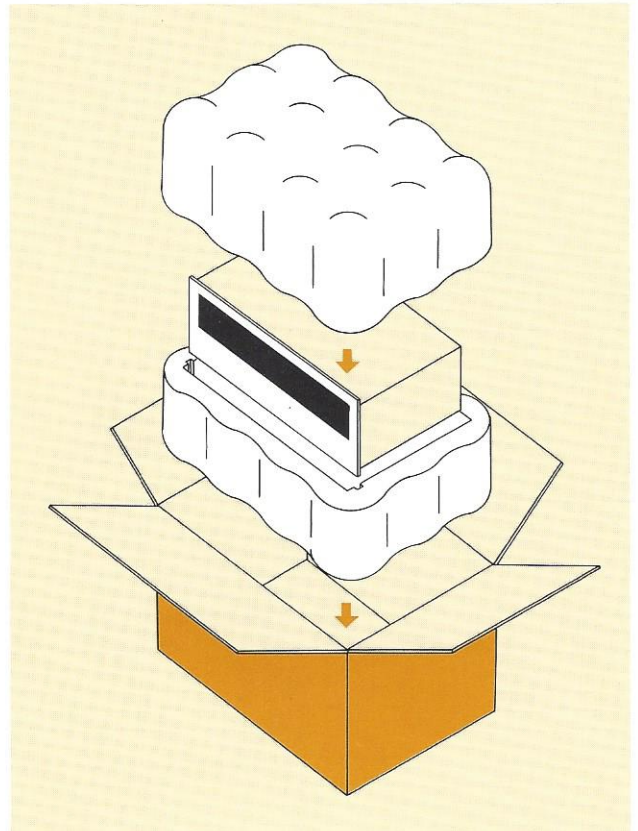

Figure 18. Repacking Illustration
3. Pack the unit carefully, using the original material as shown in Figure 18.